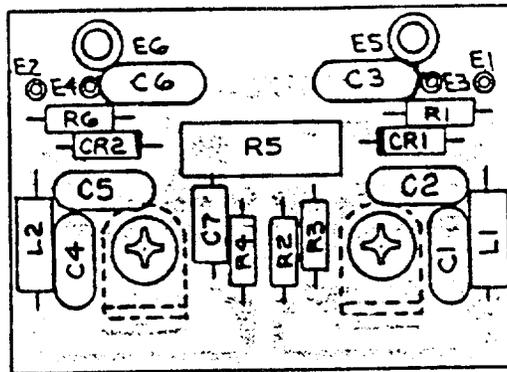

FIGURE 4
7. Using the NEW directional coupler assembly, reverse the procedure in step 6. Solder the RED wire to E1 (A1A2J1-2), the BLACK wire to E2 (A1A2J1-4), and the WHITE/BK/BN wire (gnd) to E3 (Reference Figure 4).
- i. Adjust R5, reference Figure 4, on directional coupler A3 assembly PCB for a null in reflected power indication on MULTIMETER M.